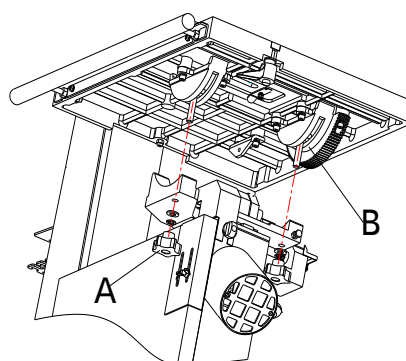

Fig. 6
Release the knob (A), then put the working table assembly into the trunnion groove (B), adjust the working table move freely, then pre-tighten the nut (A)! In fig. 6.